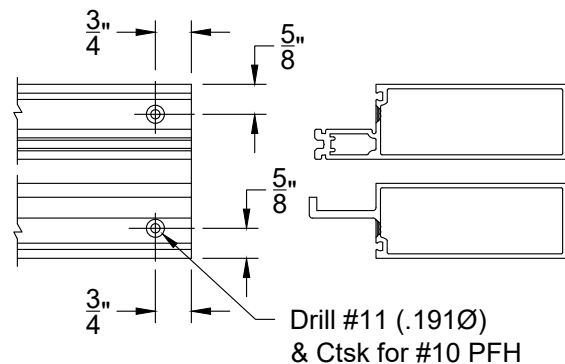

**FIGURE 21**
- 2.29 FIGURE 21 below shows the screw spline assembly for the dual horizontal expansion assembly. Use the Reliance™-SS Installation Manual for typical wall assembly.